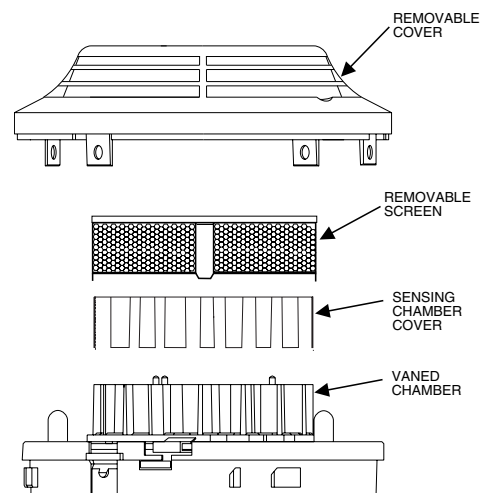

Figure 2.
3. Remove the screen assembly by pulling it straight out (see Figure 2).